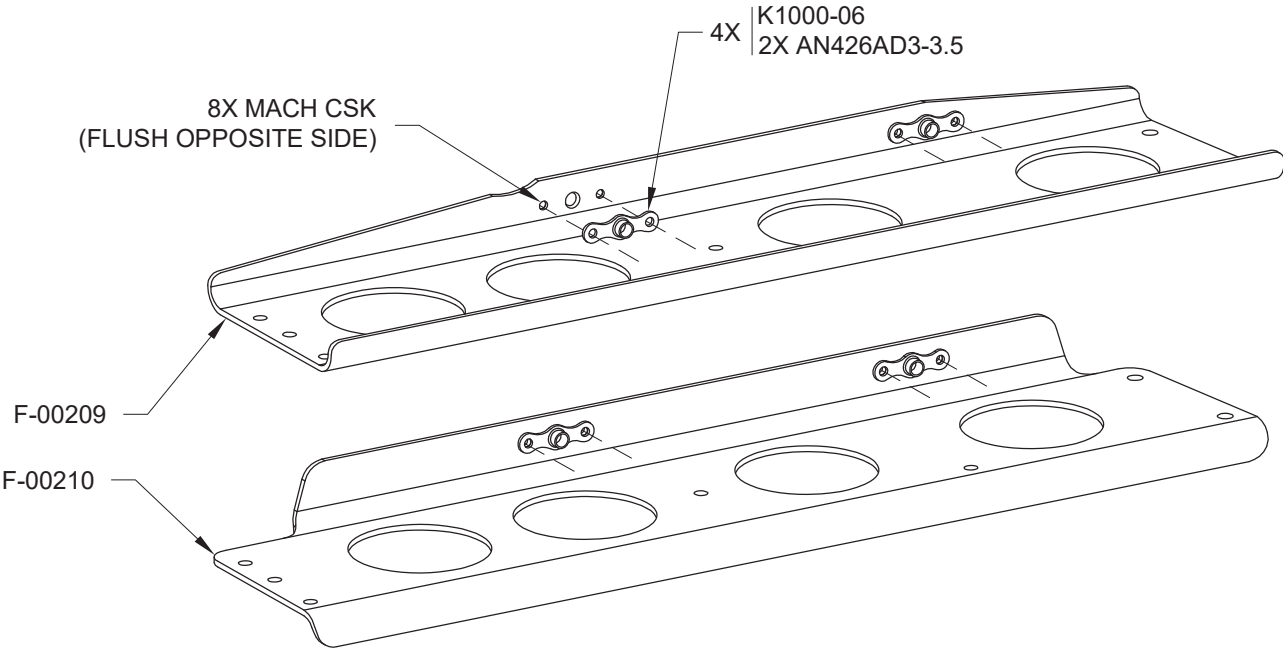

FIGURE 2: INSTALLING THE NUTPLATES ON TO XPNDR BRACKETS
Step 3: Machine countersink the nutplate rivet holes in the F-00209 Nav/Com Xpndr Bracket Right and F-00210 Nav/Com Xpndr Bracket Left as shown in Figure 2.
Step 4: Install the nutplates onto the F-00209 and F-00210 as shown in Figure 2.